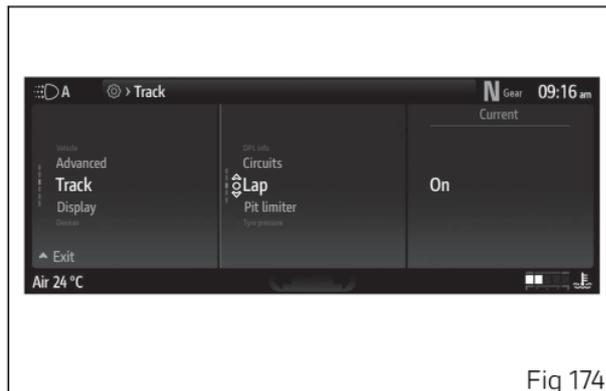

Fig 174
- Select the "Lap" item (Fig 174) and press \bigcirc .